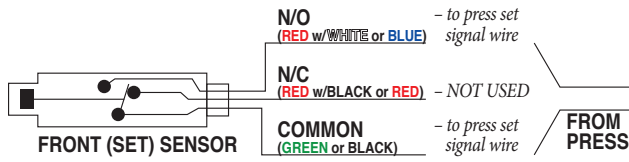

Fig. 1 - Single Sensor Wiring
1. Remove port plugs from one extend and retract port. There are three options for the retract port (A, B and C) and two options for the extend port (D and E) as shown in Figure 1.